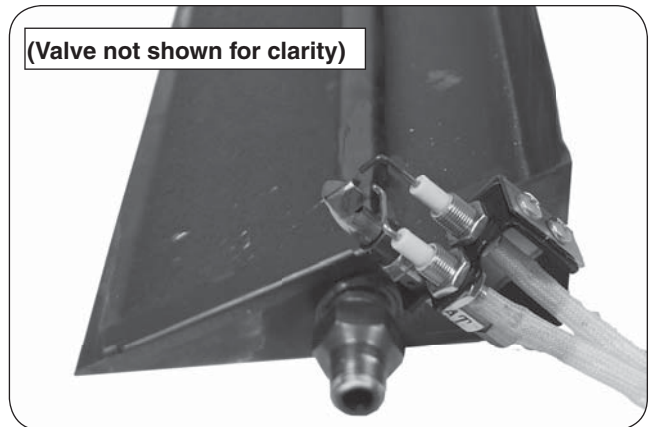

Fig. 6-2 Install pilot assembly
2. Using the two (2) remaining screws, mount the pilot assembly onto the bracket (Fig. 6-2) and tighten until snug. **Check to be certain the pilot hood and probes are situated above the edge of the pan. Adjust if necessary.**